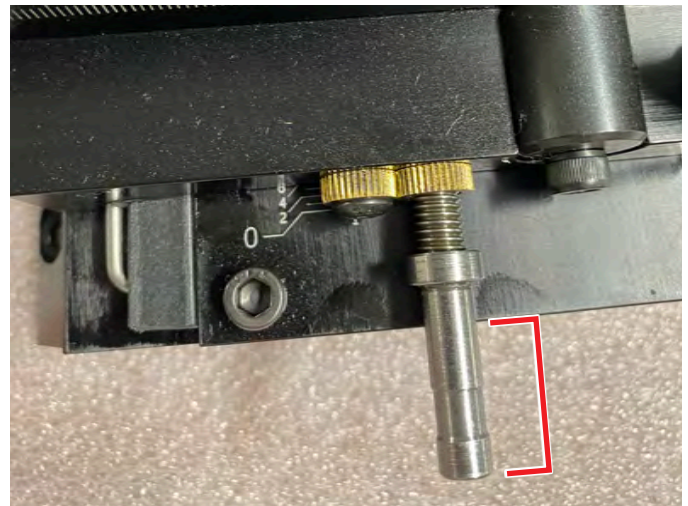

FIGURE 15
P. Then push the saddle back a bit until three-quarters of the adapter is extended out past the end of the base (see Figure 15).